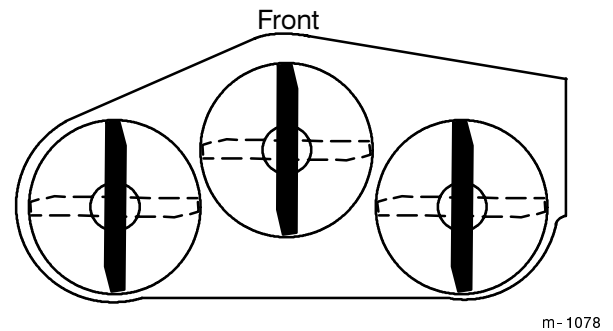
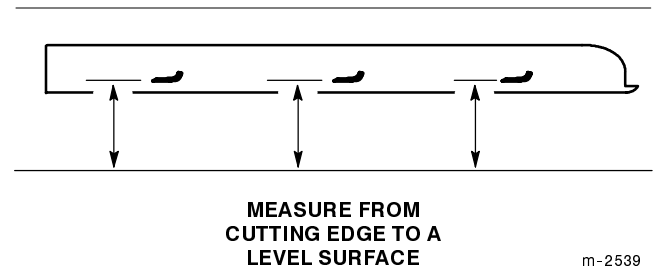

Figure 15
Figure 16
1. Rotate the blades until the ends face forward and backward (Fig. 15). Measure from a level surface to the cutting edge of the blades (Fig. 16). Note this dimension.